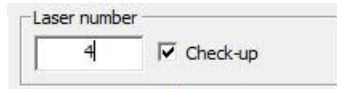

Figure 11-1 Laser Number Check-up
- The value in fieldbus parameter Laser Number does not match the number configured in the laser (see Figure 11-1).